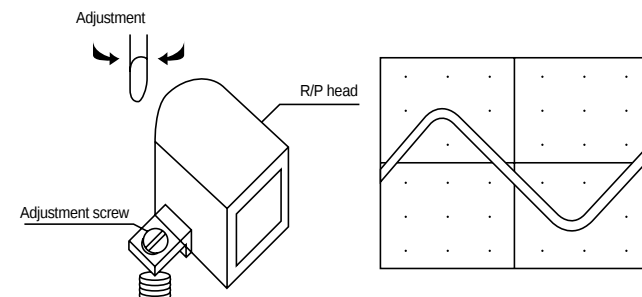

Fig.1-9 Azimuth speed adjustment
- 3) Adjust the azimuth adjustment screw of left side of record/play head for maximum output and for the same channel phase. (see Fig.1-9)